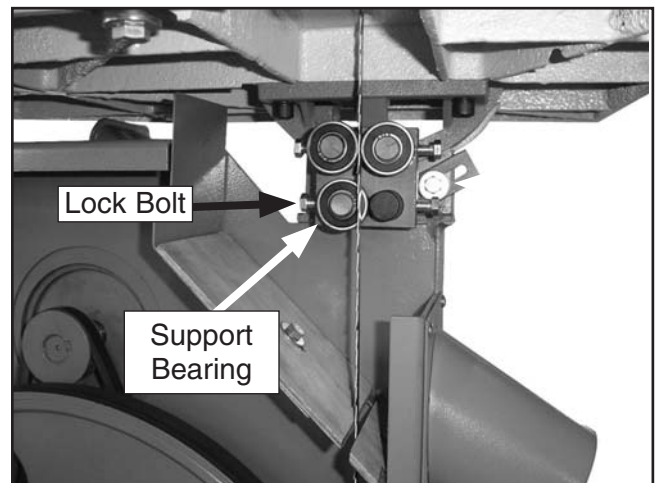

Figure 31. Lower support bearing controls.
3. Familiarize yourself with the lower support bearing controls shown in **Figure 31**.